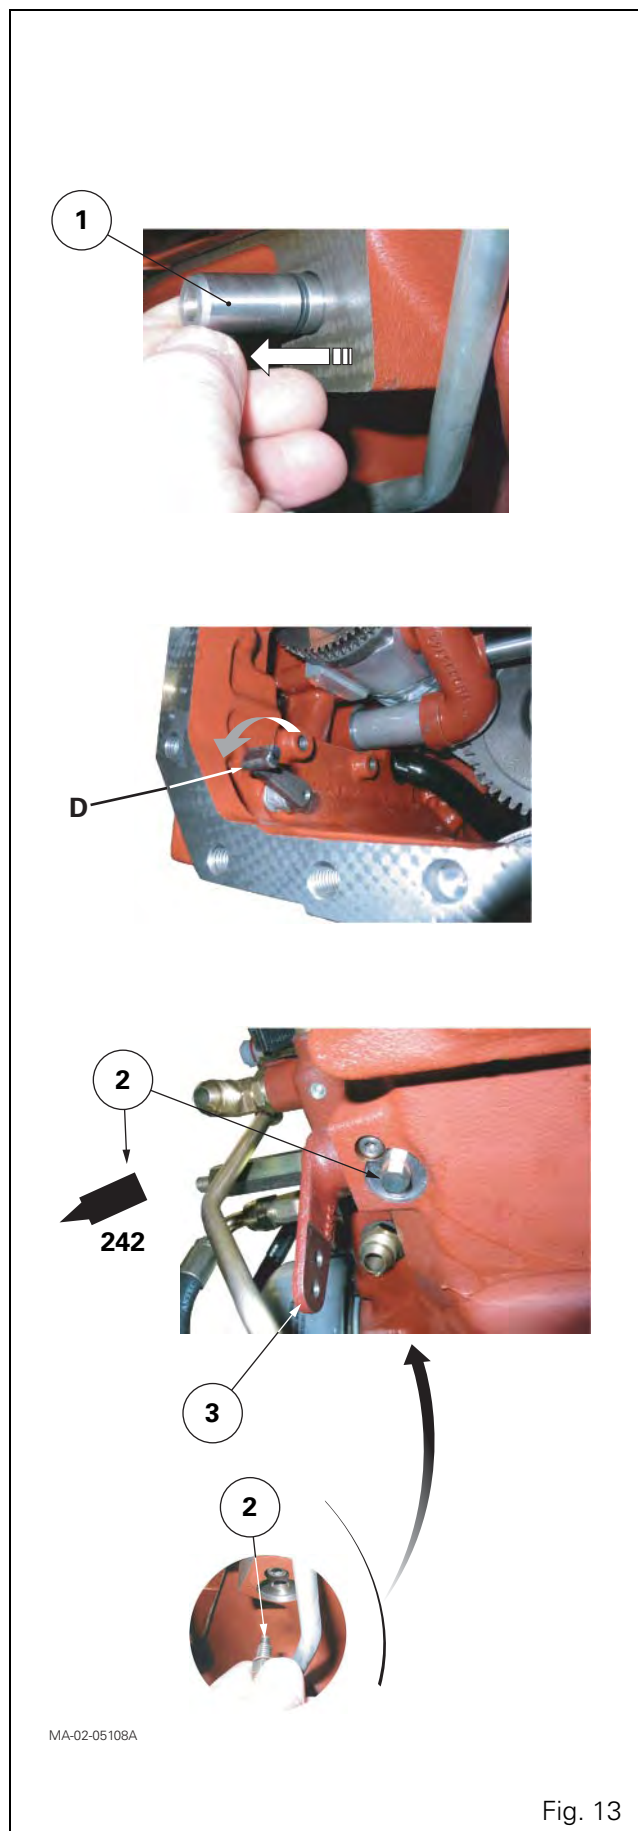

Fig. 13
On the centre housing (Fig. 13)
40. Fit a new seal on the screw (2) (Fig. 13).